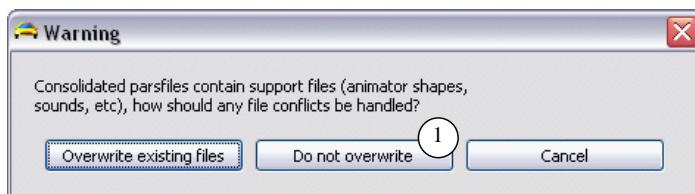

Figure 74. CarSim will ask how to handle conflicts with support files.
10. Select the **File** menu item **Import Expanded Parsfile (Any Type)** and select the file you created in step 9. You will be prompted about whether or not to overwrite existing support files (Figure 74); click the button **Do not overwrite** ①.